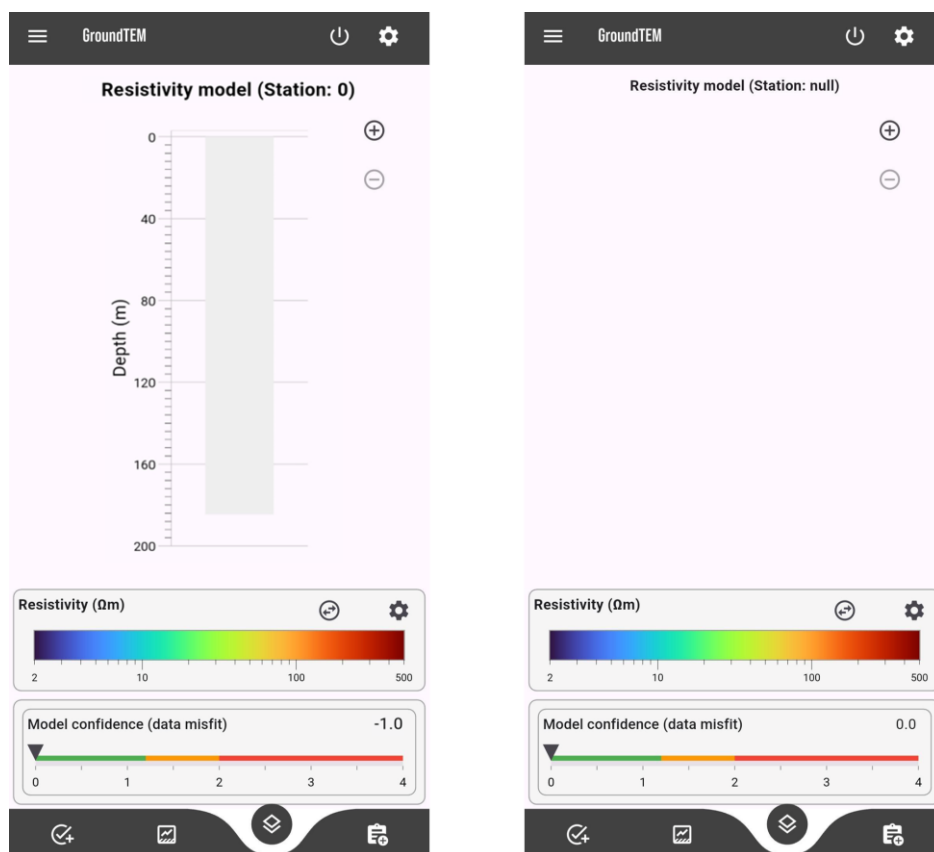

Figure 24 Situations where inversion models do not appear; showing a grey bar and Station:0 (left), and showing a blank window and Station: null (right).
1. A gray 1D model is displayed (see Figure 24, left)
2. The inversion window is completely blank (see Figure 24, right)